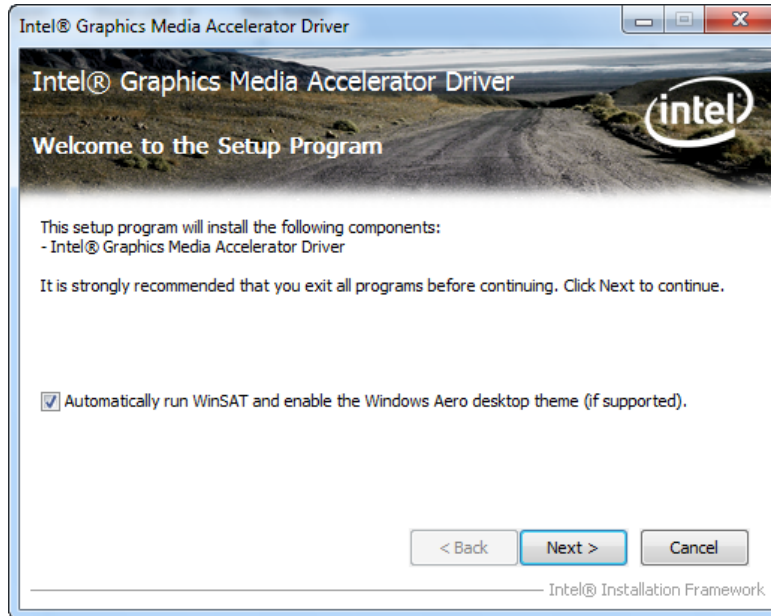

Figure 8-7: Graphics Driver Welcome Screen
- Step 4:** The **Welcome Screen** in **Figure 8-7** appears.